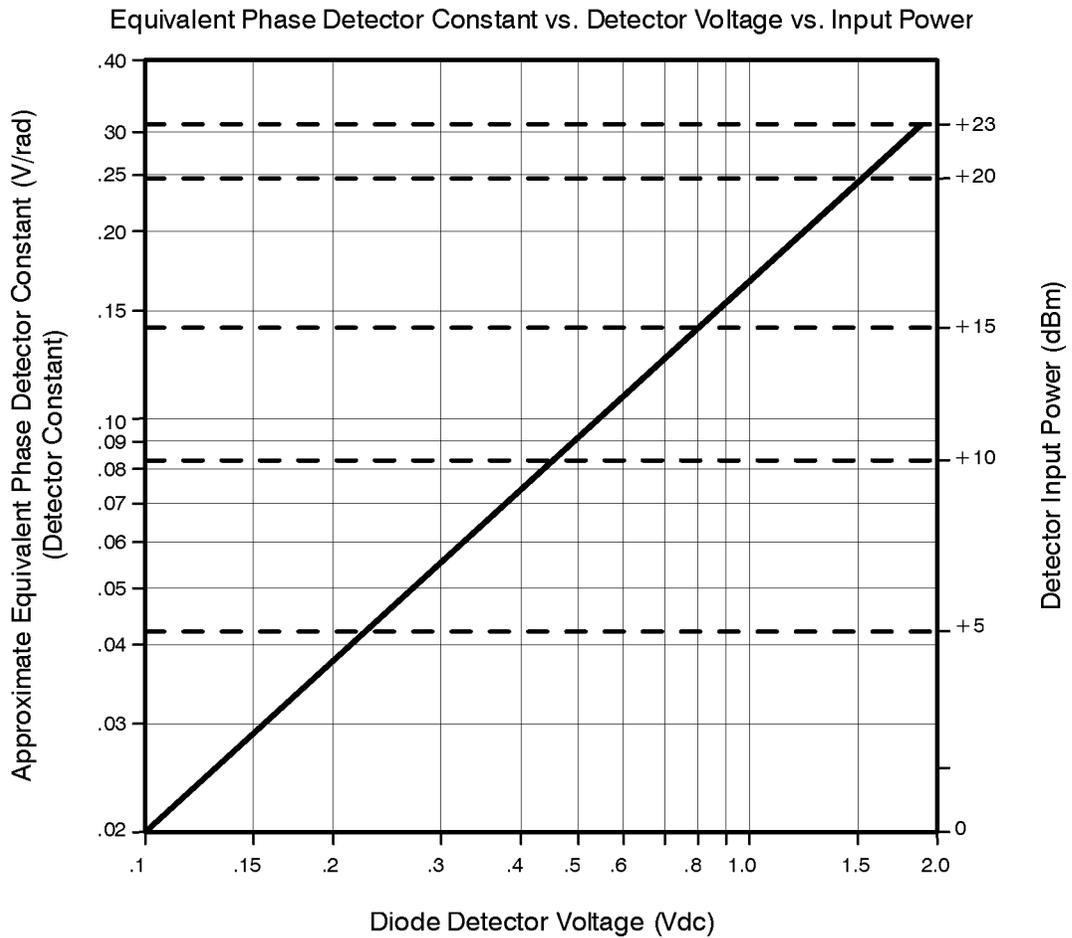

Figure 12-8 *AM Detector Sensitivity Graph*
3. Measure the monitor output voltage on the AM detector with an oscilloscope or voltmeter. Locate the diode detector's dc voltage along the bottom of the AM sensitivity graph (Figure 12-8 on page 12-9). Moving up to the diagonal calibration line and over, the equivalent phase detector constant can then be read from the left side of the graph. The measured data will be plotted as single-sideband AM noise in dBc/Hz.